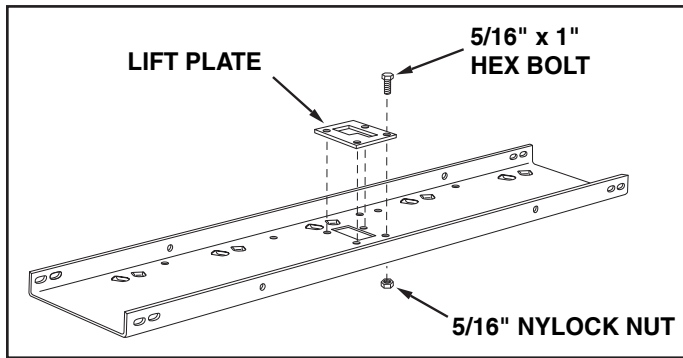

FIGURE 1
1. Assemble the lift plate to the top of the tine shield using four 5/16" x 1" hex bolts and 5/16" nylock nuts as shown in figure 1. **Tighten.**